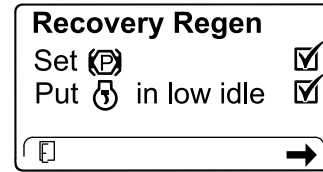

Figure 57
- At the DPF checklist screen, verify that the parking brake is engaged and that the engine speed is set to low idle (Figure 57).